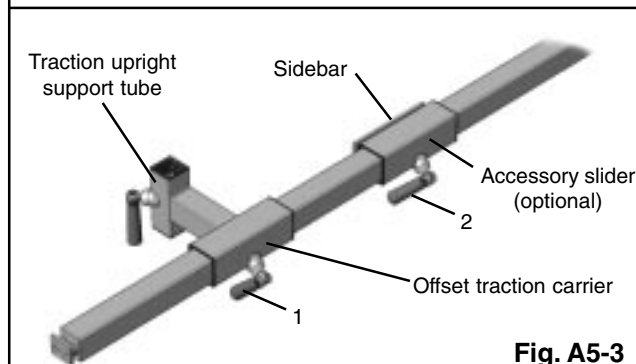

Fig. A5-3
Accessory slider. If required, slide one onto the traction beam (see Fig. A5-3) where required. Tighten locking clamp (2) when in position.
Offset traction carrier. Slide onto the beam as shown in Fig. A5-3 with the traction upright support tube inside or outside the beam as required. Lock in place with the drop handle clamp (1).